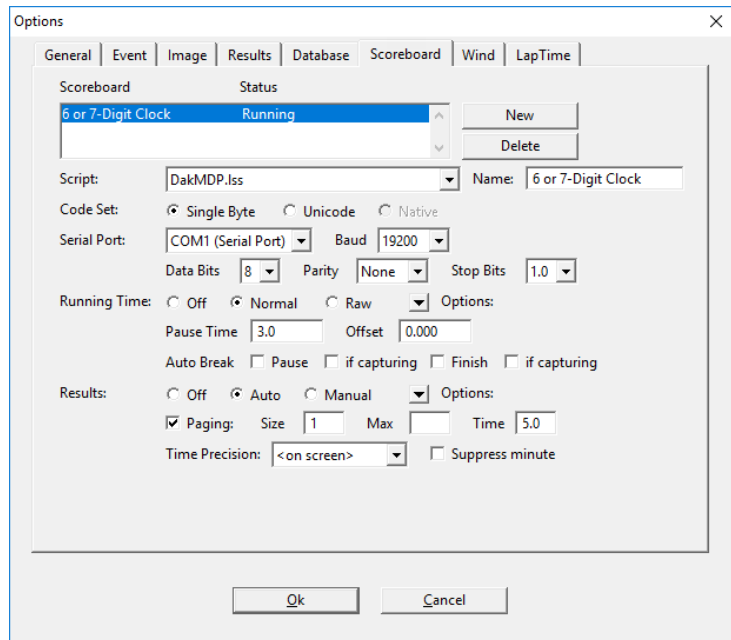

Figure 12: Scoreboard Options for 6- or 7-Digit Clock
6. Set up the scoreboard options on the FinishLynx computer as follows (refer also to **Figure 12**):